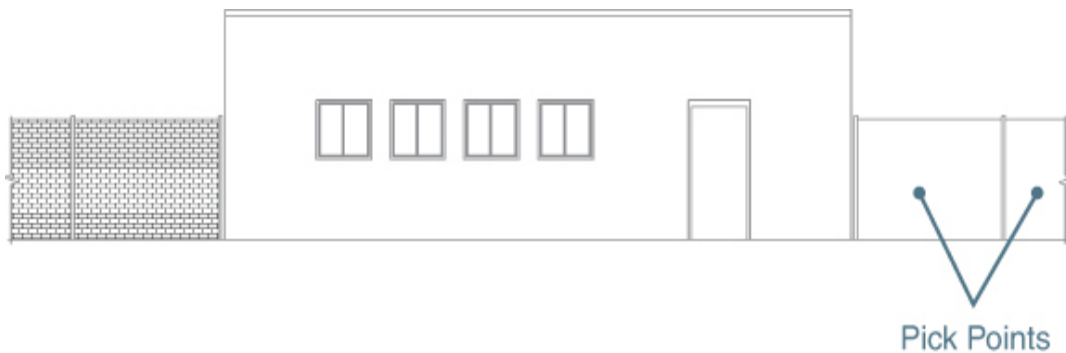

Figure 10-20
- 3 Pick the brick wall pattern on the left side of the drawing. AutoCAD now prompts you to *Pick internal point or ↓*. Pick the two points shown in Figure 10-20. Press **<Enter>**. All the settings for the selected hatch are now the default options for your new hatch.